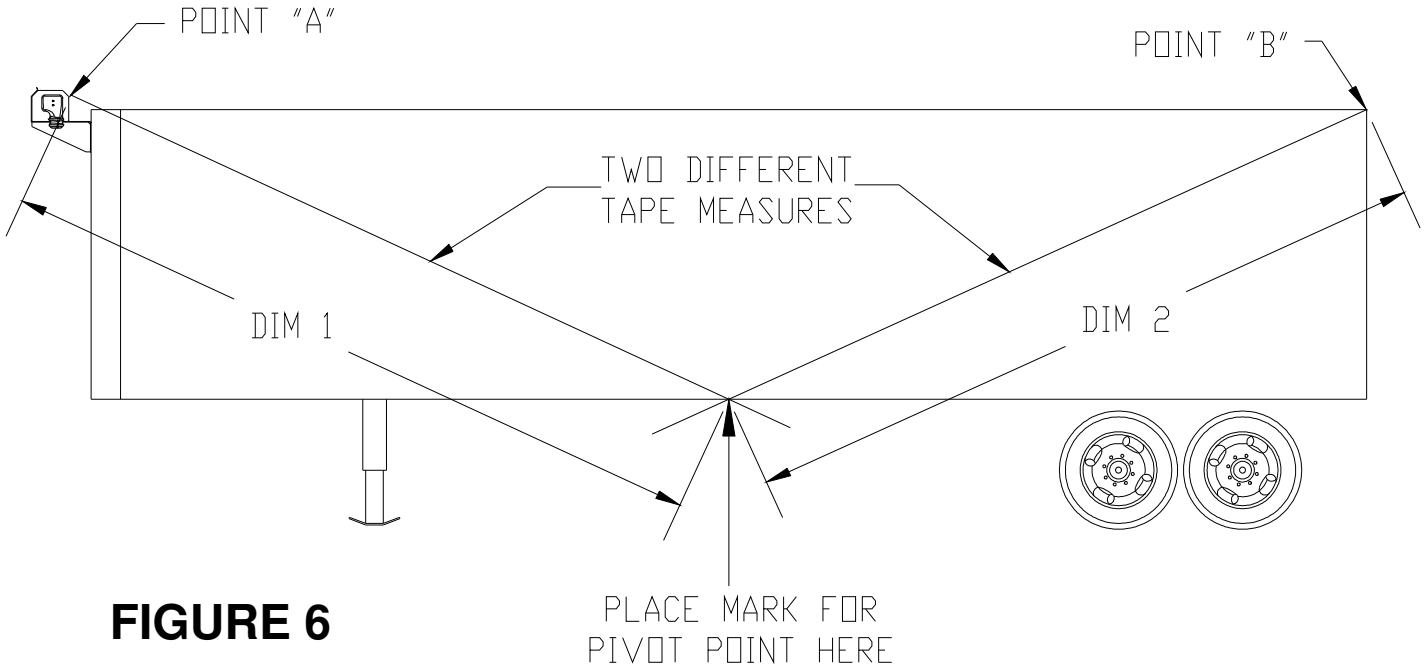

FIGURE 6
- To find the pivot point, pull one tape measure from point “A” (corner of housing assembly) and a separate tape measure from point “B” (rear of trailer). Cross the tape measures at the bottom-middle of the trailer body. Move point where the two tape measures cross until both distances (DIM 1 = DIM 2) on the tape measures are equal. **Write down this dimension below to be used later.** Mark the spot beneath the tape measures where they cross. This is your pivot point. (See Figure 6)
- Slide cast 90° degree elbow into each end of the rear cross bar (RCP) and into both arm extrusions. Adjust so that rear cross bar is centered between sides of trailer and parallel with rear of trailer. Rear cross bar should now be at point "B" as shown on figure 6 on page 6.